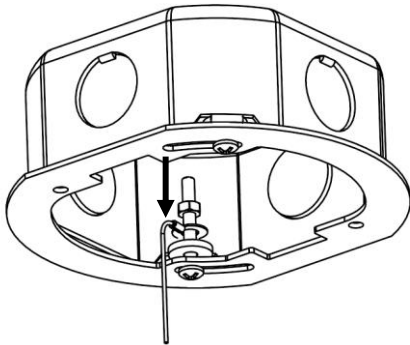

Figure 4 – Method A
- A) Thread the tether eyelet through the screw and secure eyelet with the supplied nut by tightening the nut on top of the eyelet **AFTER the mounting plate has been fastened to the junction box**. This is the recommended method of installation by Acuity Brands for easier installation of the fixture. This process is shown in *Figure 4*.